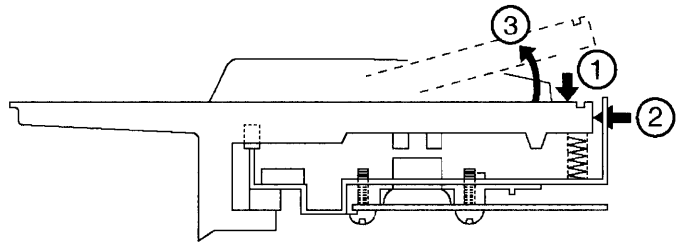

Figure-22
2. Press downward on the rear of the key as shown in Figure-22.